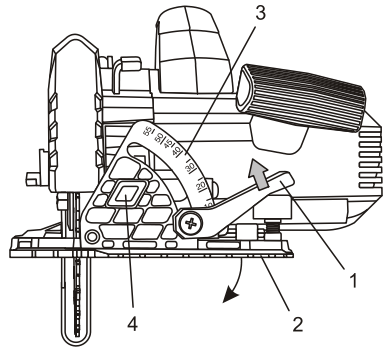

Fig. 5
1. Lift the bevel angle locking lever (1) upward (Fig. 5).
2. Rotate the sole plate (2) to the desired angle as shown on the bevel gauge (3).
2. Set the bevel angle to 0° (Fig. 5).